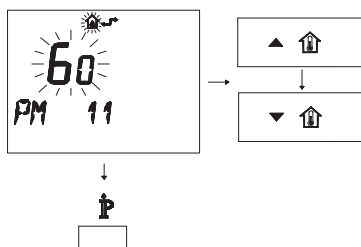

Fig. 7.34
- To modify the programmed SET, act on buttons ▲⏮ or ▼⏮ and wait for the programmed number to flash (Fig. 7.34). Each step increased or decreased corresponds to 1 second.